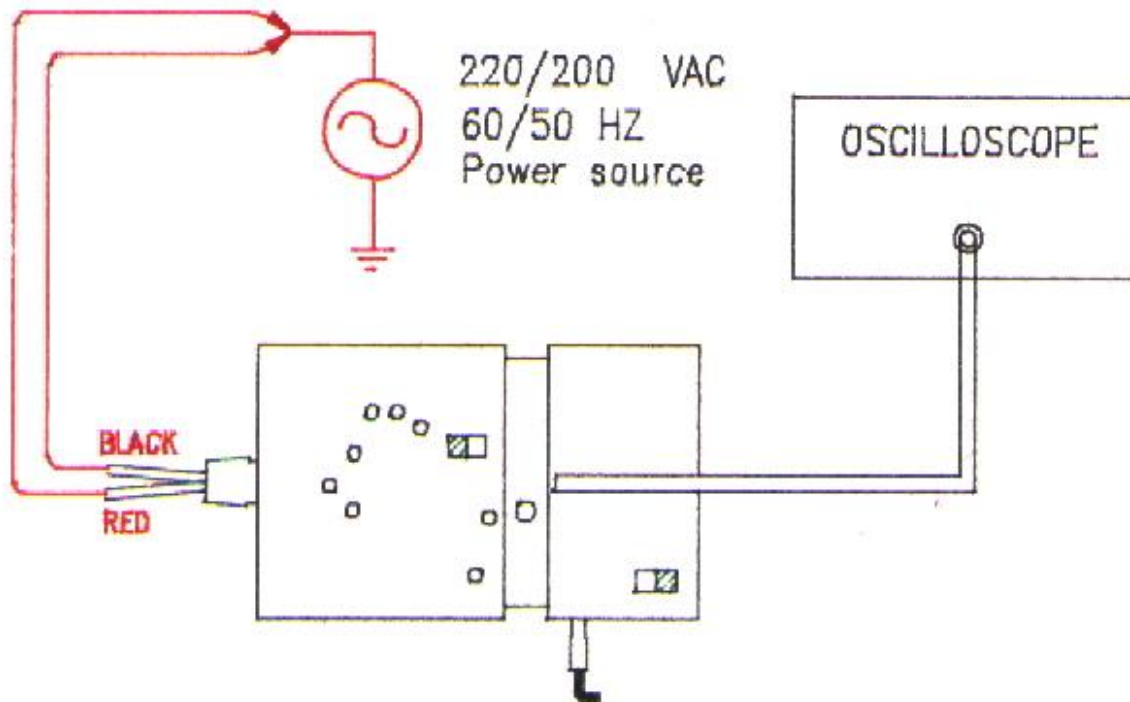

Fig. 11
- a. Referring to Fig. 11, connect output BNC to the oscilloscope which has good grounding.